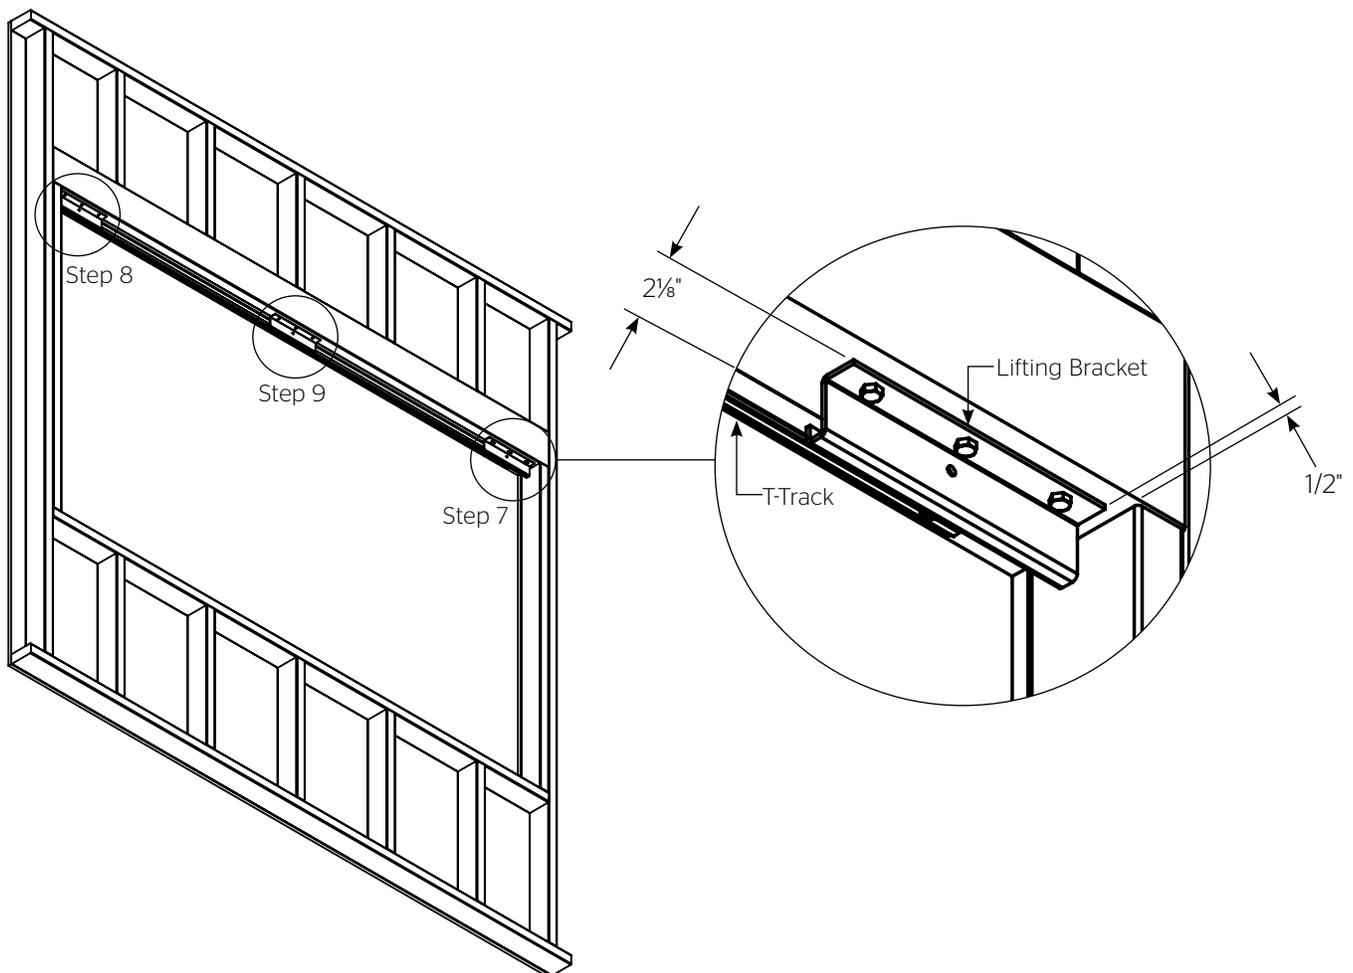

Figure 4
7. Mount the first lifting bracket (D) in the top section of the wall opening behind the T-track (B). Measure $2\frac{1}{8}$ " from the back (projector side) of the T-track (B) to the back edge of the lifting bracket (D) and $\frac{1}{2}$ " from the edge of the opening to position the bracket correctly. Use $\frac{1}{4}$ " x 1" lag screws to attach the bracket (See Figure 4).
8. Repeat for the second lifting bracket (D) at the top section of the screen in the opposite corner (See Figure 4).
9. Position the third lifting bracket (D) $2\frac{1}{8}$ " from the back of the T-track (B) in the center of the top section of the wall opening and mount with $\frac{1}{4}$ " x 1" lag screws (See Figure 4).